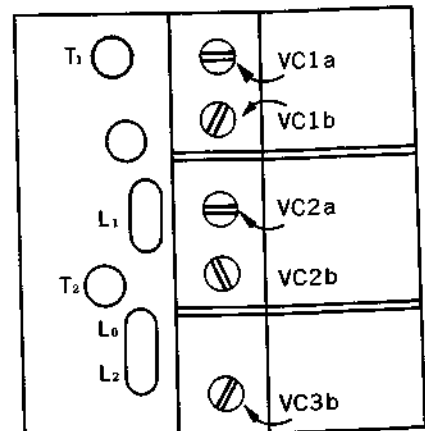
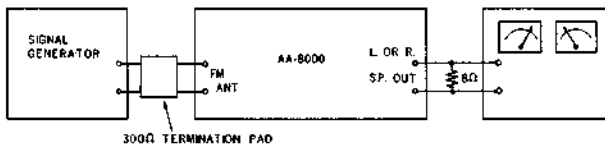

Fig. 7
Fig. 9
(2) Adjustments
- Set the tuning dial of AA-8000 to the left end. Turn VOLUME half-way and adjust L_2 of the front end (see Fig. 7) so that the Distortion meter level indicates maximum.
- Set the Signal Generator frequency to 108.5 MHz. Set the tuning dial of AA-8000 to the right end. Adjust C_0 (see Fig. 7) on the front end so that the Distortion meter level indicates maximum.
(1) Instrument Connections
Use the same instruments as used in item 3-3 (Fig. 9), and connect them in the same way.
- Adjust the cores of L_1 and T_1 (see Fig. 7) on front end of AA-8000 so that the Distortion meter level indicates maximum and the distortion factor is minimum.
Use the same instruments as used in item 3-3 and connect them in the same way. (Fig. 9) Set the signal generator frequency to 98 MHz, and the output to 60 dB (1 mV). Turn the tuning dial of AA-8000 to receive this signal and make sure that the tuning indicator deflects more than 5 mm to both sides from beginning to end of signal reception.